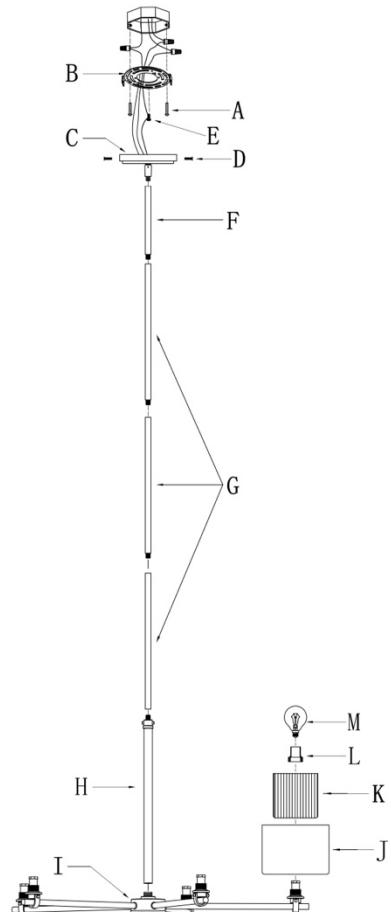

Fig. 2
CONNECTING THE WIRES (Fig. 2)
7. Connect electrical wires as shown in Fig.2, making sure that all wire connectors are secured. If your junction box has a ground wire (green or bare copper), connect the fixture's ground wire to it. Otherwise, connect the ground wire directly to the mounting plate (B) using the green screw (E) provided.